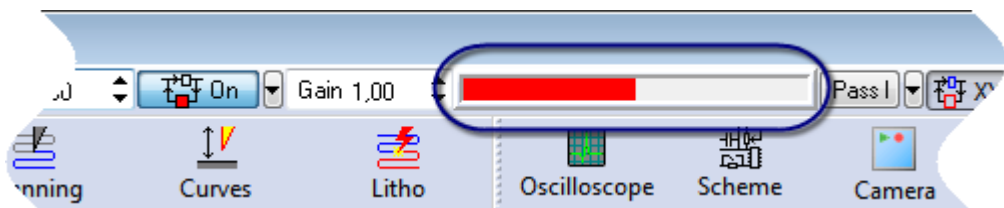

Fig. 8-11. Scanner extension indicator after approaching
- Length of the indicator bar decreases down to some intermediate value (see Fig. 8-11).